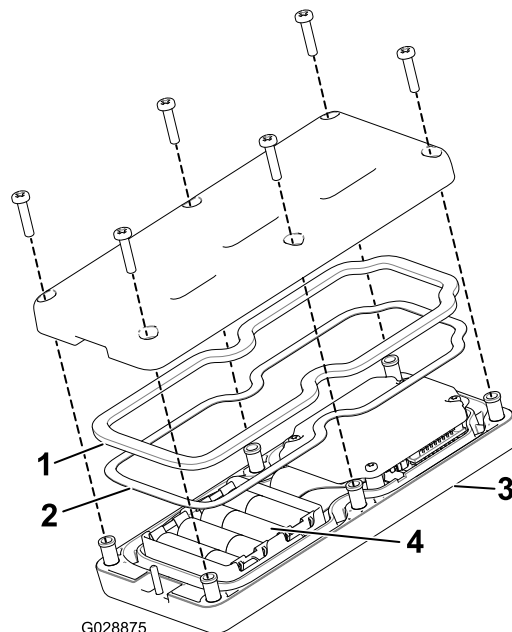

**Figure 37**
1. Loosen the bolt in the magnet on the magnetic remote bracket (Figure 37).
2. Slide the bracket sides apart and remove the remote (Figure 37).
8. Install the handheld remote into the magnetic remote bracket, slide the halves together to secure the remote, and tighten the bolt in the magnet (Figure 37).